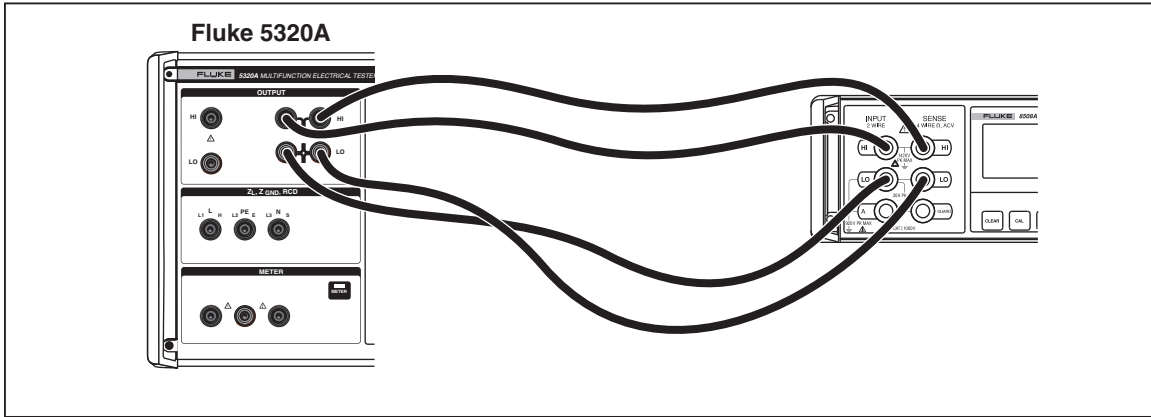

Figure 3-4. Low Resistance Source Calibration Connections
1. Connect the Fluke 8508A multimeter to the Calibrator’s output terminals, as shown in Figure 3-4.